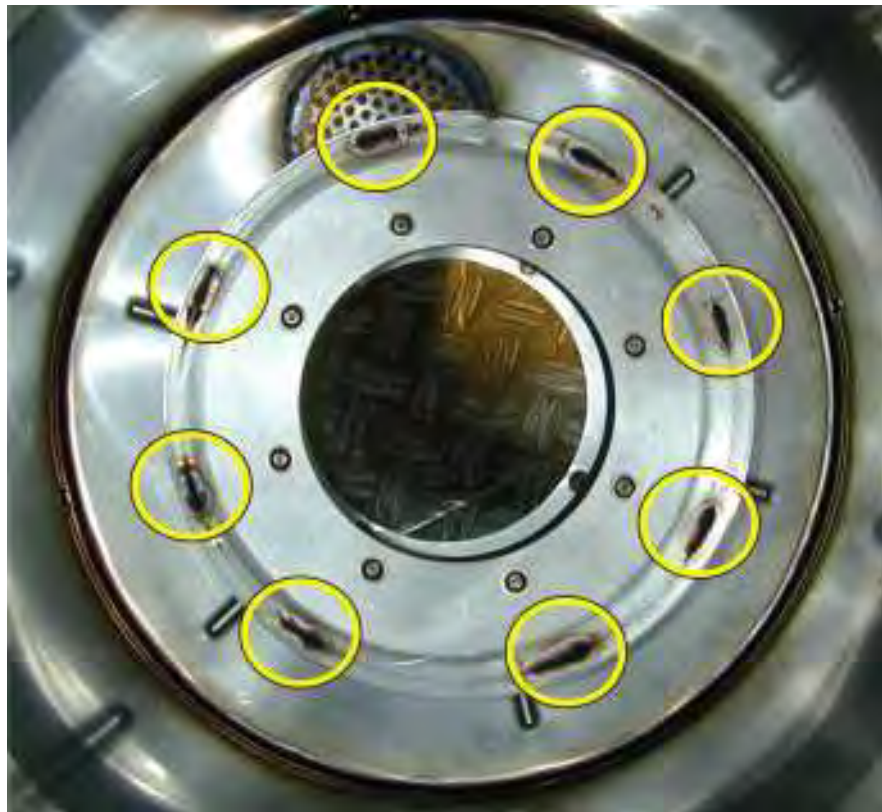

Fig. 1: View into the outer jacket from below.
- Solution:** If problems occur, then mount the correct outer jacket. The frame must be fastened with 8 welding points, see Fig. 1: